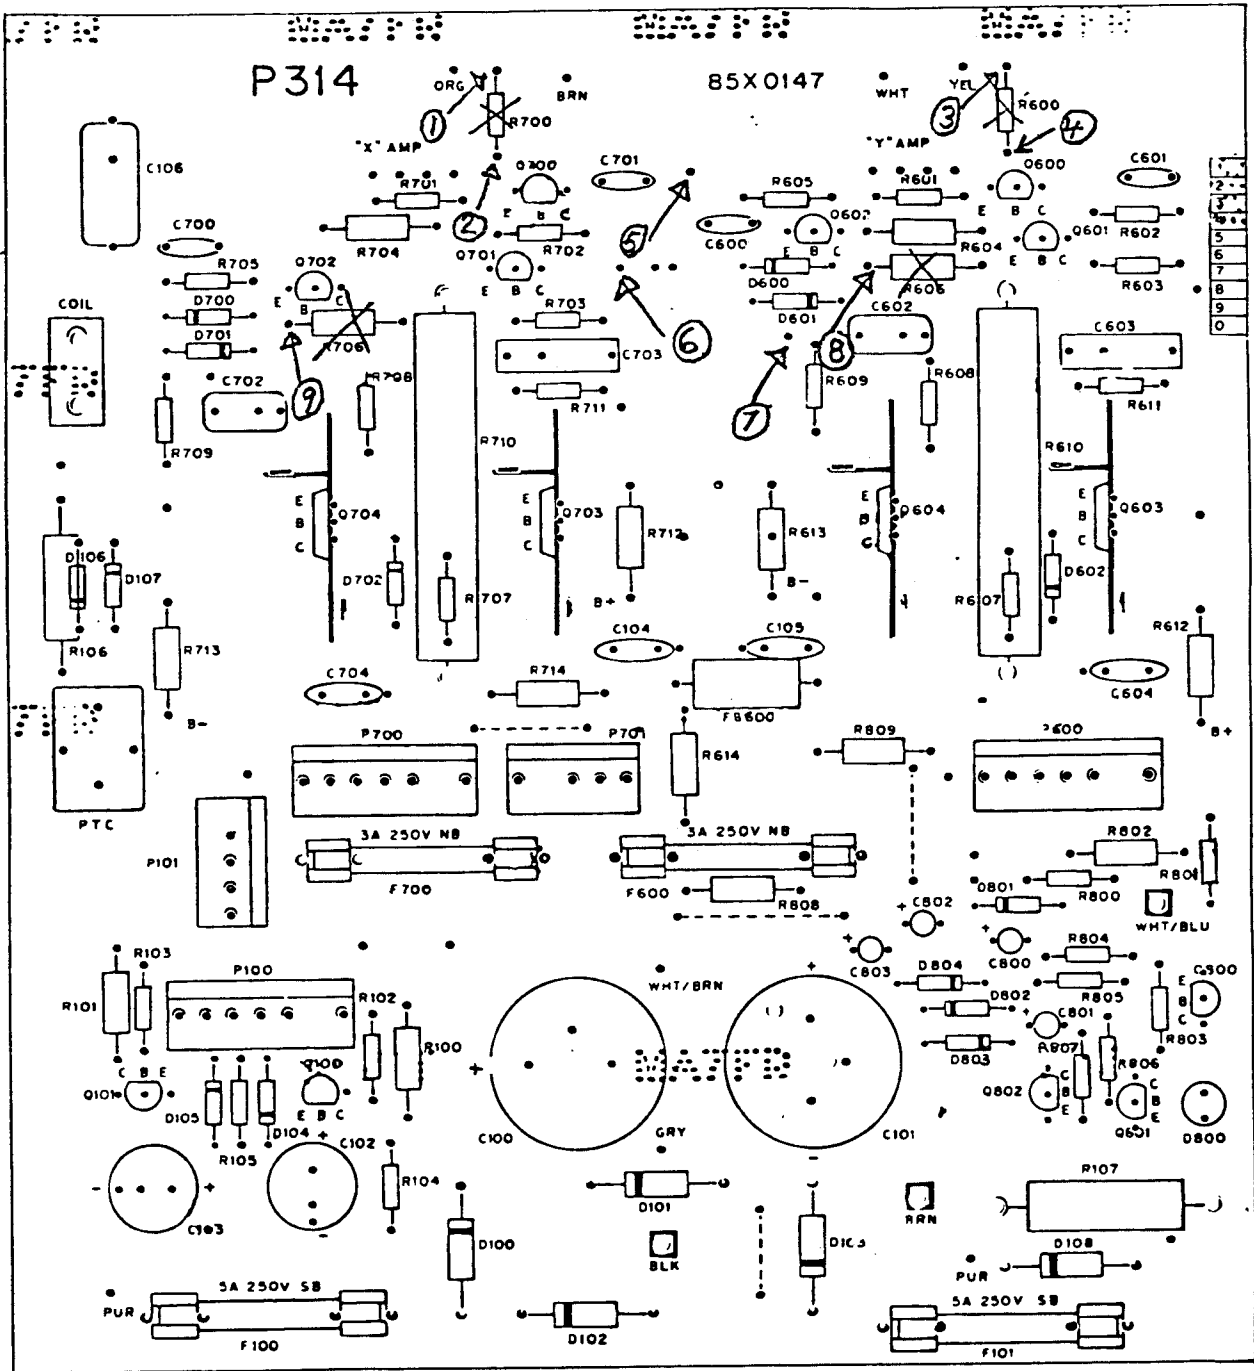

Figure 13 Deflection PCB Assembly
2. Remove solder from all nine holes indicated in figure 13.
4. Match and insert the numbered holes in figure 13 with the numbered pins in figure 1.